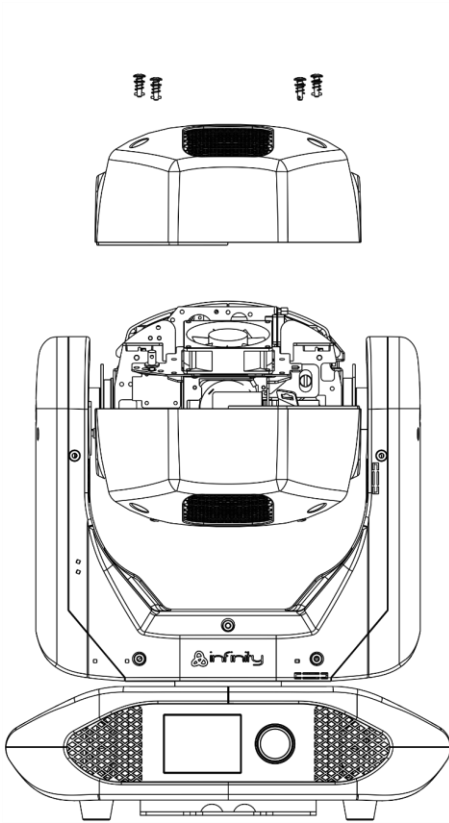

Fig. 07
- 02) Loosen the 4 Phillips-head quarter-turn fasteners on the housing and remove the cover (Fig. 07).